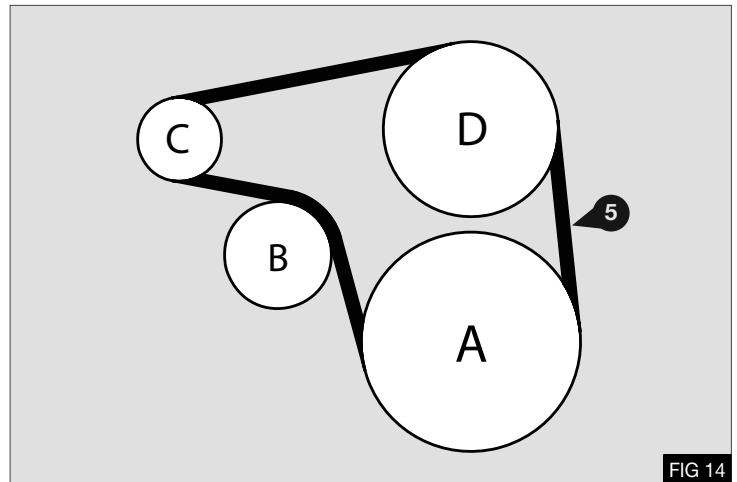

FIG 14
- Re-fit the supplied 7PK **5** drive belt to the alternator and tension - Fig 14